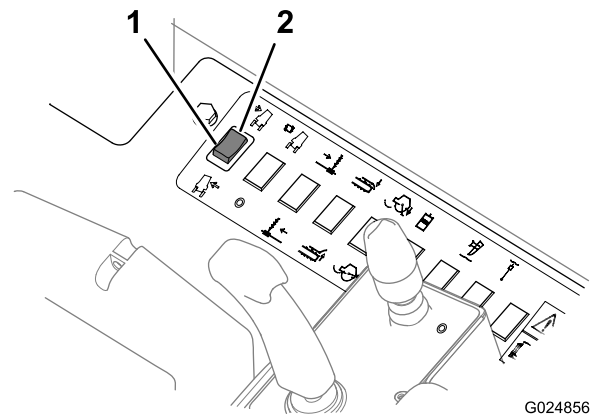

Figure 46
- Push the upper part of this switch down (Figure 46) to tilt the machine right for inclined terrain.
- Push the lower part of this switch down (Figure 46) to tilt the machine left for inclined terrain.